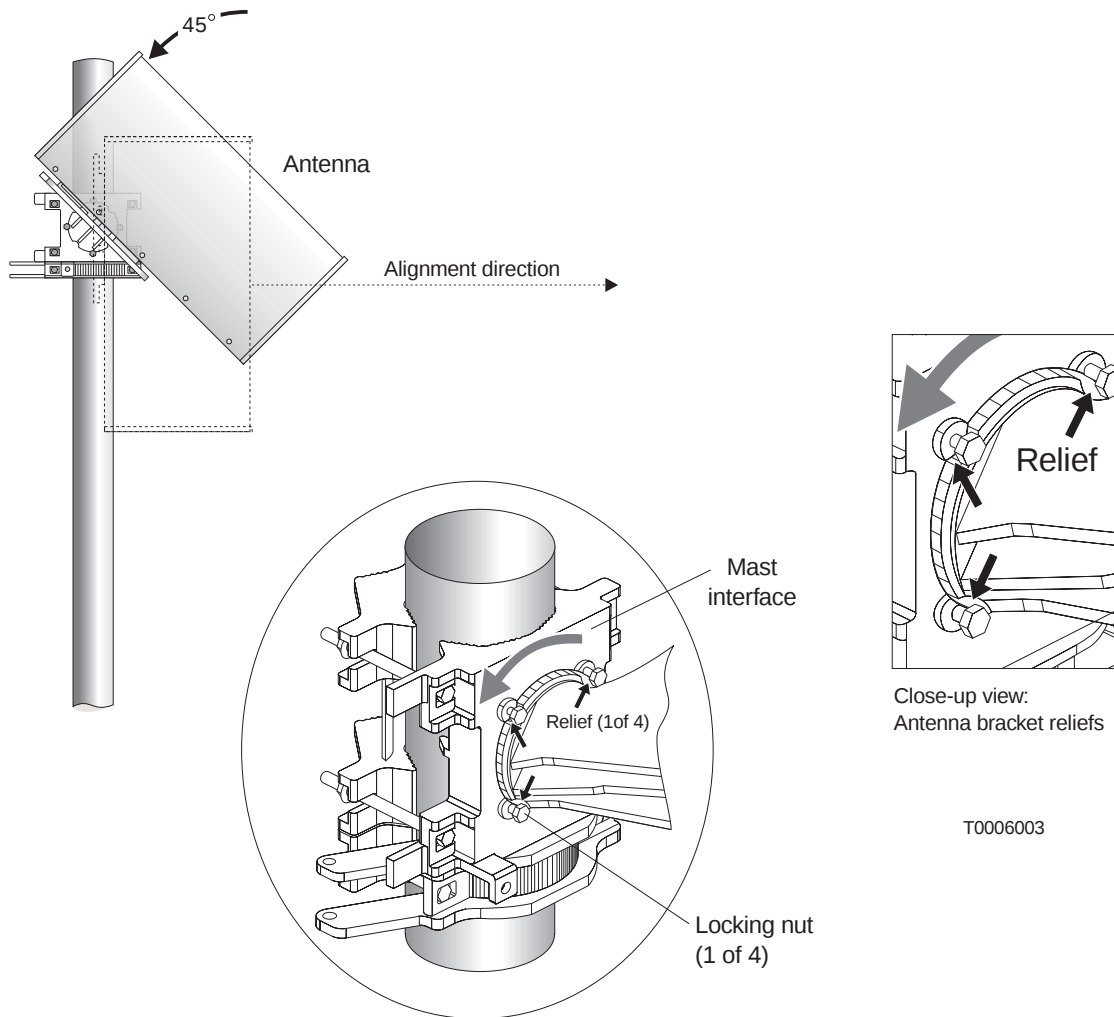

Figure 4-13 Rotating the antenna so the antenna bracket can be placed against the mast interface
4. Rotate the antenna approximately 45° away from the HT alignment direction (assigned sector) until the antenna bracket reliefs (curved indentations) are aligned with the four nuts on the mast interface, as shown in figure 4-13.